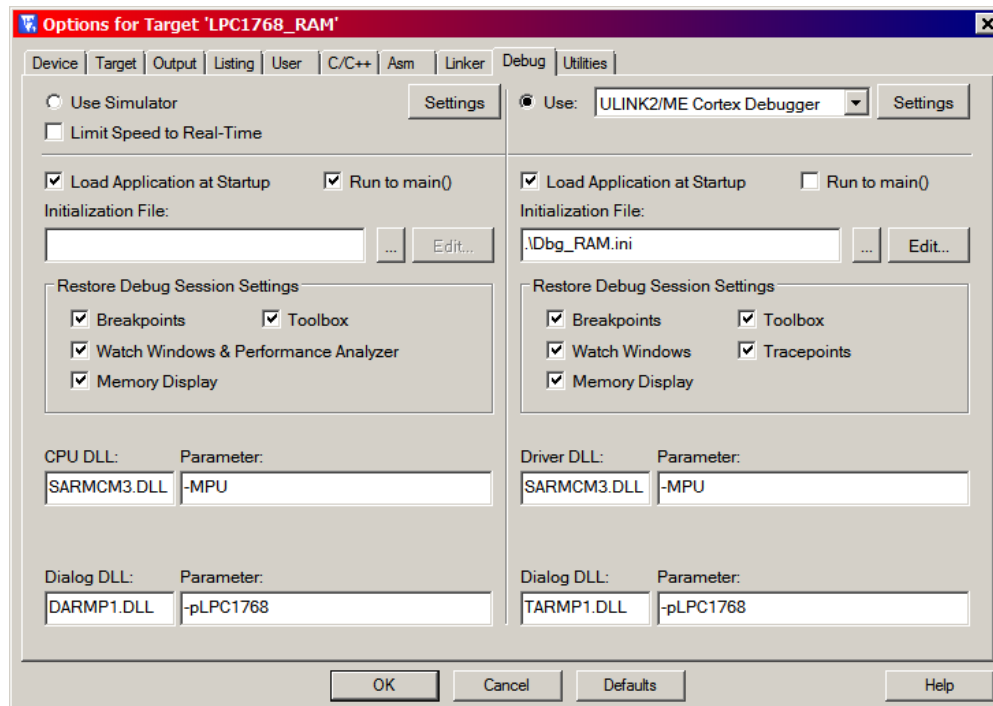

Figure 1.5 – Initialization file for LPC1768_RAM target
- Under the **Debug** tab, add the file name Dbg_RAM.ini to the field **Initialization File** (Make sure you have chosen the **Ulink2/ME Cortex Debugger**, not the Simulator). Figure 1.5 shows a screen capture.